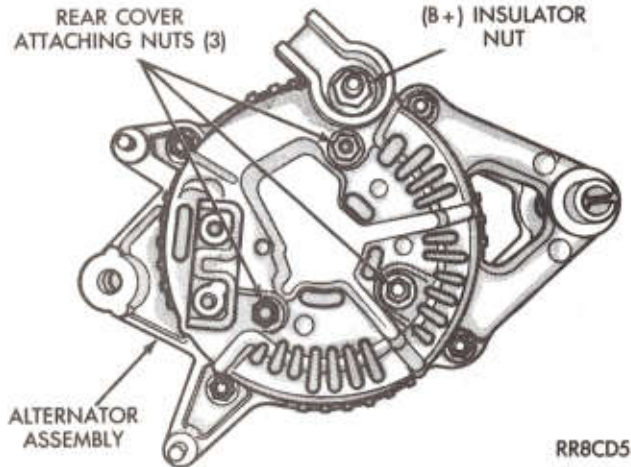

Fig. 4—Remove or Install Rear Cover
- (1) Place the alternator on a suitable work surface. Remove the B+ insulator attaching (1) nut and lift off the insulator. Remove rear cover attaching (3) nuts and lift off the rear cover (Fig. 4). When installing the B+ insulator, align the guide boss into the hole in the rear cover.